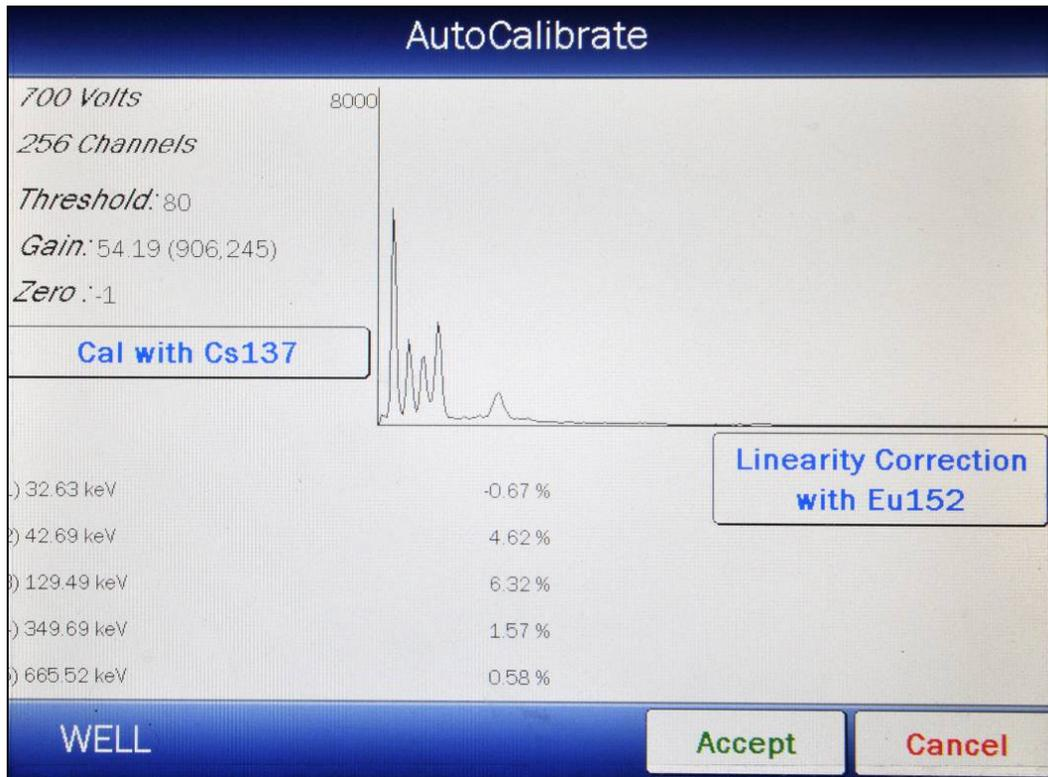

Figure 8-4 Well Auto Calibrate with Eu152 Results Screen
- d. After the Linearity Correction calibration is completed, the results will be displayed as shown in Figure 8-4 Well Auto Calibrate with Eu152 Results Screen.